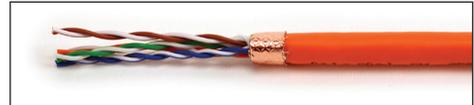

Figure 5
3.4 Attach conductive tape over the braided shield or drain wire at the edge of the cable jacket. Trim off excess braid. Add spacers onto the cable if necessary. Be sure no braided shielding comes out of the end of the conductive tape. (Figure 5)